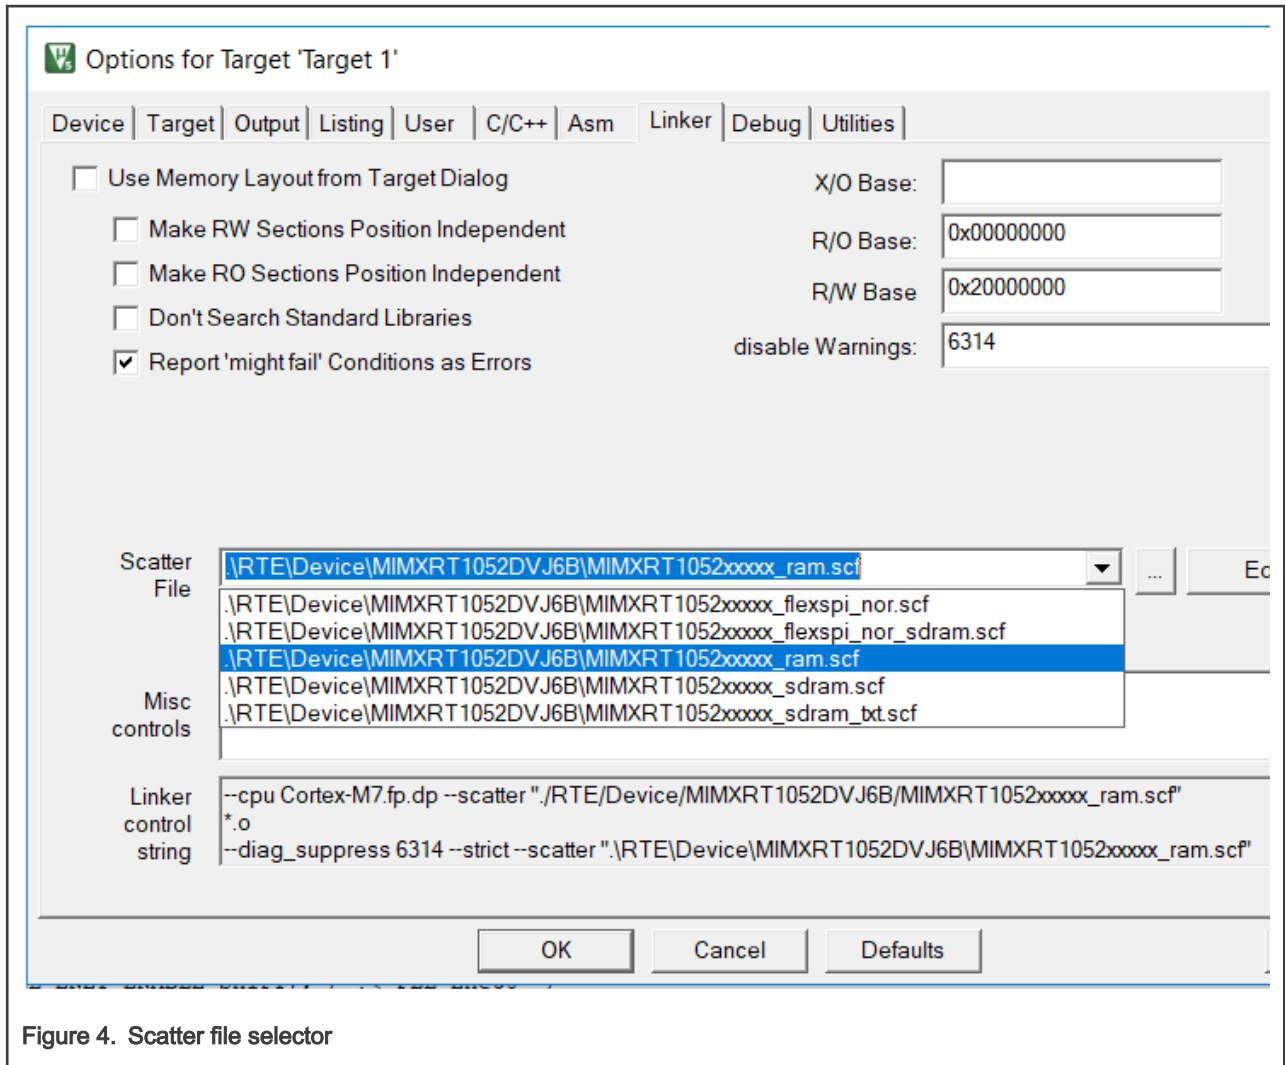

Figure 4. Scatter file selector
2. Select an appropriate scatter file in the Scatter file selector. For details, see Figure 4.